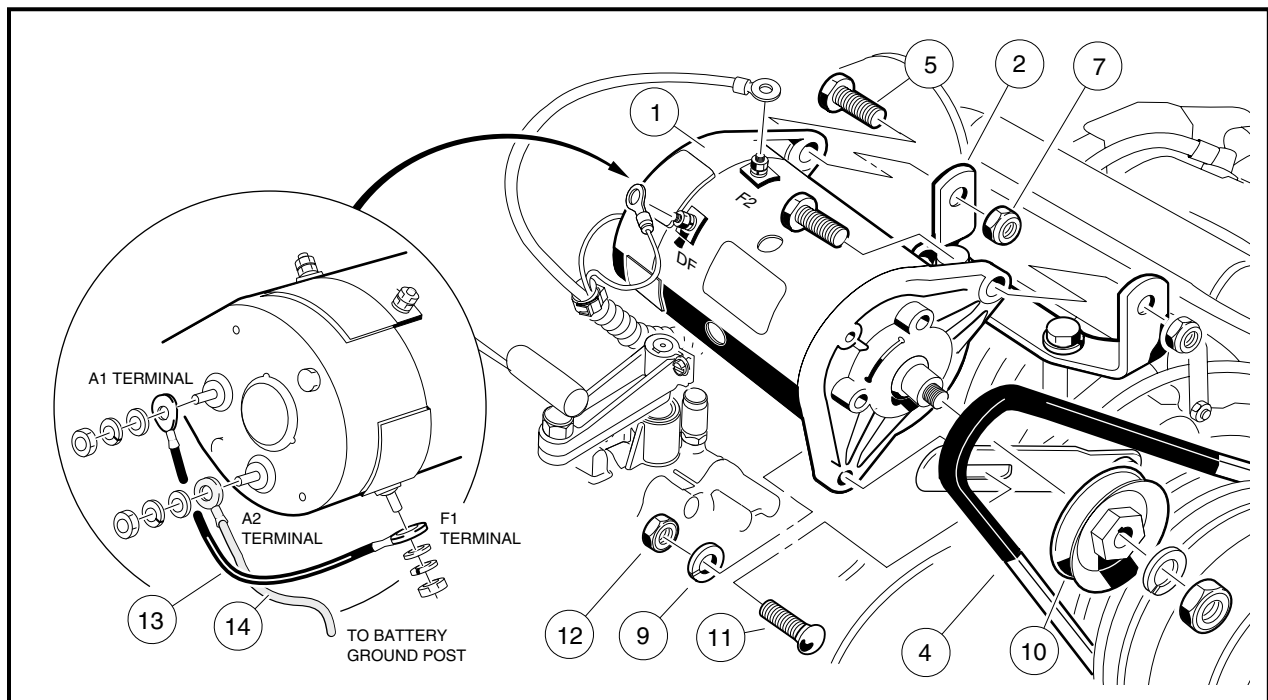

Figure 12a-2 Starter/Generator Removal
1. Remove the two bolts (20) and pull commutator end cover (23) free of starter/generator housing (24) (**Figure 12a-3, Page 12a-4**). **See following NOTE.**